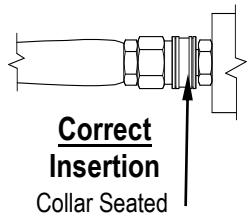

Figure 6b
- Let go of collar (Figure 6b).